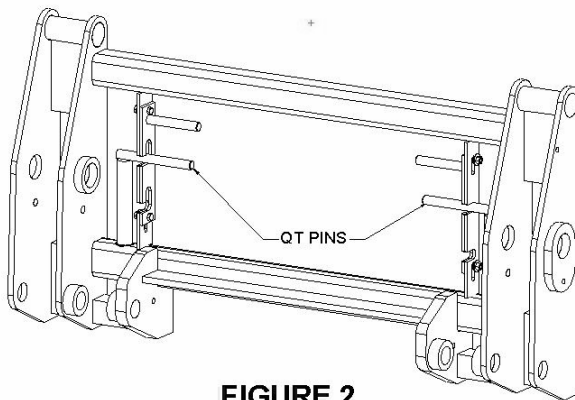

FIGURE 2.
STEP 2 Attach the belly mount to the tractor. Belly mount styles vary but usually clamp around the axle leg (as shown in Figure 2, the axle leg shown in this figure is not installed until step four). Install the bolts for the belly mount but do not tighten them.
STEP 4 Slide the rear end of the 3 x 5 axle legs into axle brackets and mount the front of the axle legs to the belly mount (See Figures 2 & 4). Adjust the axle leg so that the front of the leg is approximately 54 inches behind the channel opening of the front mount. Install and snug the bolts used to secure the legs in place but do not tighten them.
STEP 2 Remove the stand legs from the upright frame of the loader as shown in Figure 2.
2. Rotate QT pins out of the lower notches, raise, and then rotate them into the upper notches of the sliding latches as shown in Figure 2.
2. When the QT frame is flat against the attachment, raise the sliding latches as shown in Figure 2.